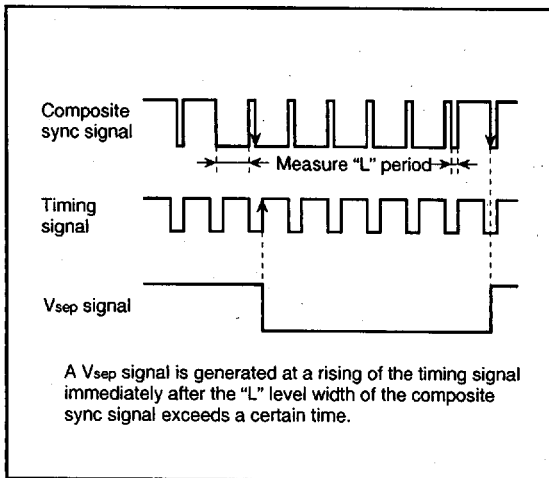

Fig. 20  $V_{sep}$  generating timing (method 2)
- Method 2 The "L" level width of the composite sync signal is measured. If this width exceeds a certain time, it is detected whether a falling of the composite sync signal exists or not in the "L" level period of the timing signal immediately after this "L" level. If a falling exists, a  $V_{sep}$  signal is generated in synchronization with the rising of the timing signal (refer to Figure 20).
Figure 20 shows a  $V_{sep}$  generating timing. The timing signal shown in the figure is generated from the reference clock which the timing generating circuit outputs.